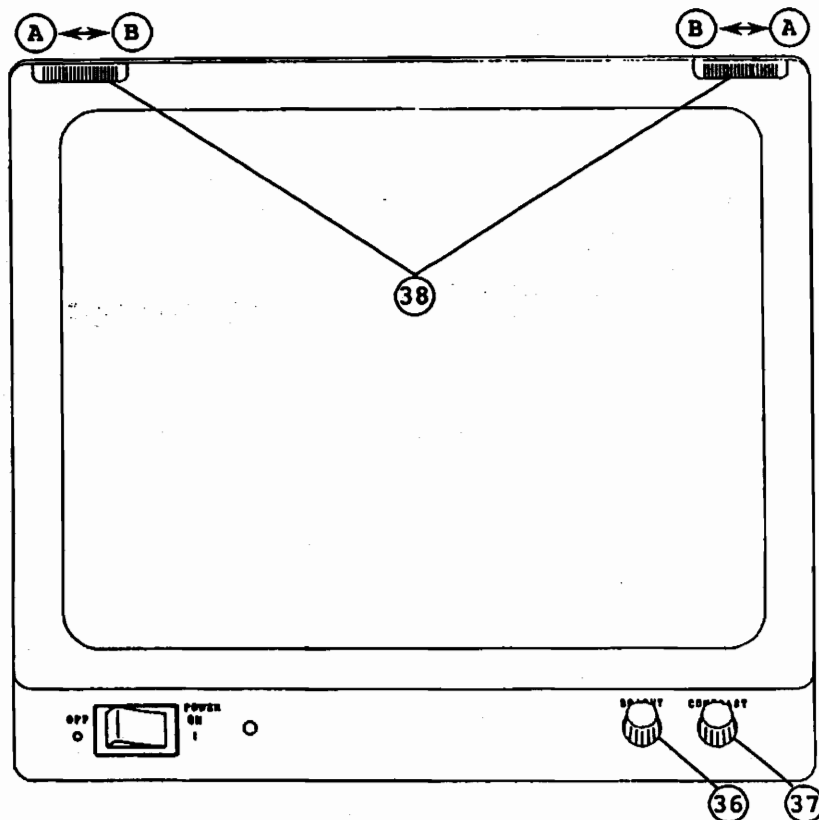
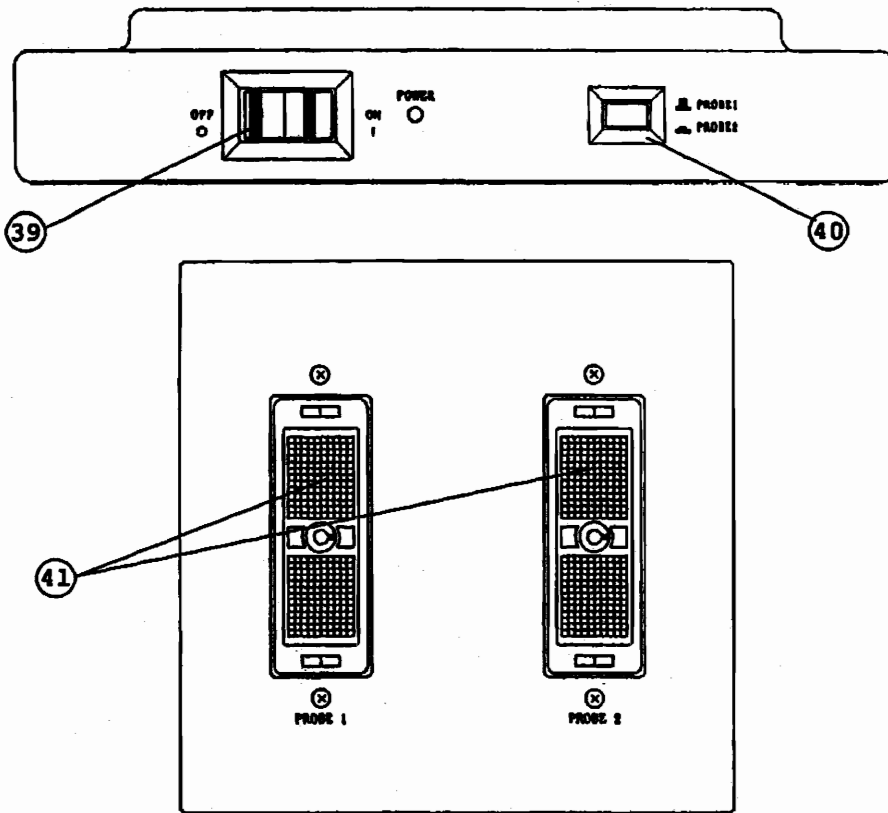

Fig. 3-5-3 9-Inch Monitor Display
Fig. 3-5-4 Cart Front Panel
2. Be sure to turn "OFF" the power switch ① before connecting or disconnecting a probe with respect to this connector. If the probe is connected or disconnected with the power switch ① left ON, it will cause the equipment to fail or malfunction.
- ②9 AC Power Receptacle : AC power input of the EUB-405 system. Connect from this receptacle to the AC power source using the power cord supplied.
- ③0 Fuse Holders : Contain fuses for protection against overloads. Replacement fuses must be of the same type and same rating.
- ③1 Video signal output terminal (VIDEO) : For connection to video printer
- ③2 Print signal output terminal (PRINT) : For connection to video printer
- ③3 FOOT SW Receptacle : Plug the optional foot switch into this receptacle.
- ③4 VCR/TO Receptacle : Connect from this receptacle to the VCR (VTR) for image recording.
- ③5 VCR/FROM Receptacle : Connect from this receptacle to the VCR (VTR) for playback.
3.5.3 9-Inch Monitor Display see Fig. 3-5-3.
- ③6 Brightness Control : Adjusts the screen brightness.
- ③7 Contrast Control : Adjusts the image contrast.
- ③⑧ Screen Filter Locks : Sliding each of these locks to its ② side will allow removal of the screen filter. (Normally, the locks must be set to the ① side.)
3.5.4 Cart front panel see Fig. 3-5-4.
- ③⑨ Power switch, POWER : Turns on and off power supply to the probe selector and units which are powered from the auxiliary power socket.
- ④⑩ Probe select switch, : Selects a probe for use.